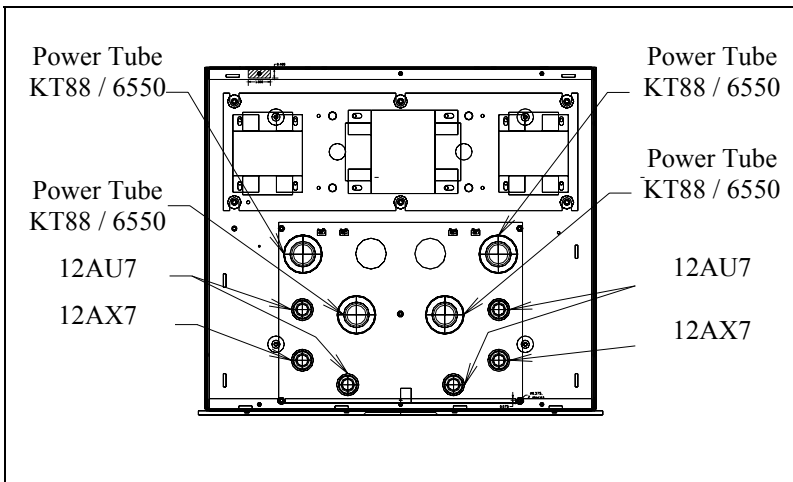

Figure 3
- 4) *Install Power Tubes* - To avoid damage in transit, the power tubes are shipped in a protective container inside the main shipping container. Carefully unpack the tubes, and using a glove or a clean dry cloth, install the tubes as shown in figure 3.
- 5) *Inspect Input and Driver Tubes* - Inspect the remaining tubes to ensure that they are fully seated in their ceramic sockets. If a tube appears to be tilted or otherwise dislocated, using a glove or clean cloth, press down gently on the tube to reseal it in its socket. See Figure 3 for tube locations.
- 6) Obtain and insert a new set of tubes. It is recommended that a new set of tubes be obtained from Rogue. If tubes are obtained from another source, follow the diagram in figure 3 for tube type.
- 7) Insert new tubes in sockets using a glove or cloth. See figure 3 for locations.